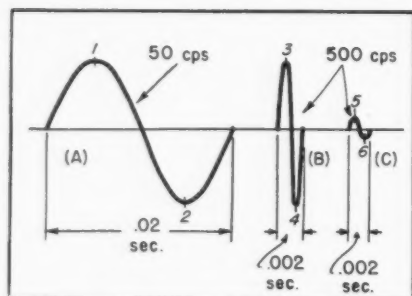

Fig. 1. Comparison between sine-wave signal plotted for 50 and 500 cps: at same amplitude, (A) and (B); and at same velocity, (A) and (C).
In constant-velocity recording, the maximum velocity of the stylus tip at a given signal level remains constant for any frequency. Considering a sine wave as being applied to the recording head, the maximum velocity occurring during each cycle is as the stylus tip is crossing its center or rest position. Figure 1 is used to clarify this point. (A) shows a sine wave at a frequency of 50 cps, requiring a period of time .02 sec. in length. (B) shows a sine wave at a frequency of 500 cps, requiring a period of time of .002 sec. Both of these are shown at the same amplitude, or displacement, of the stylus from its rest position. From these diagrams, it is seen that the stylus requires .01 sec. to move from 1 to 2 in (A), and .001 sec. to move from 3 to 4 in (B), and that both of these distances are the same. Therefore, the velocity of the stylus point must be 10 times as great for the higher frequency since it must move over the same distance in 1/10 the time. If the velocity of the stylus were held constant, then the displacement or amplitude of the swing would be re-